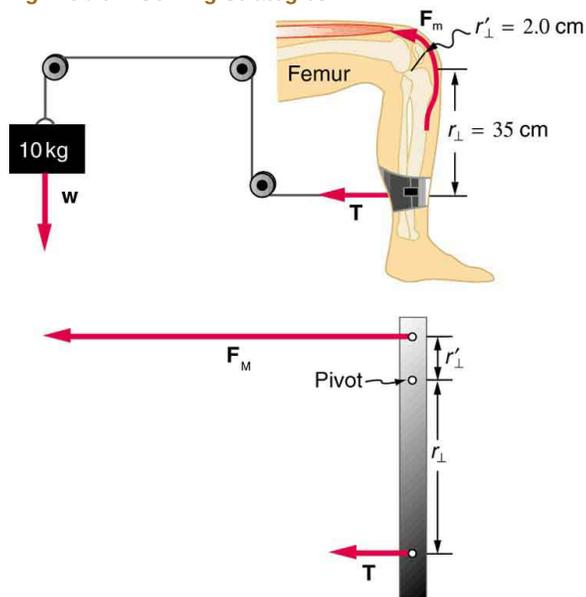

Figure 9.39 A mass is connected by pulleys and wires to the ankle in this exercise device.
48. A device for exercising the upper leg muscle is shown in **Figure 9.39**, together with a schematic representation of an equivalent lever system. Calculate the force exerted by the upper leg muscle to lift the mass at a constant speed. Explicitly show how you follow the steps in the Problem-Solving Strategy for static equilibrium in **Applications of Statistics, Including Problem-Solving Strategies**.